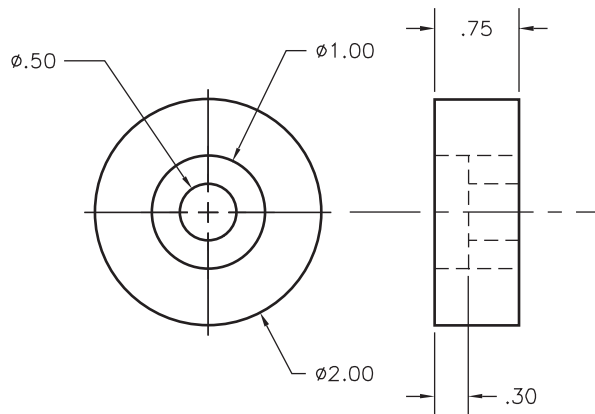

Fig. 19-13
2. An alternate design of the bushing described in problem 1 provides a hard insert to act as a wear surface within the bushing (Fig. 19-13). Make the change in the sectional view and hatch accordingly. Save the drawing as **altbushing.dwg**.